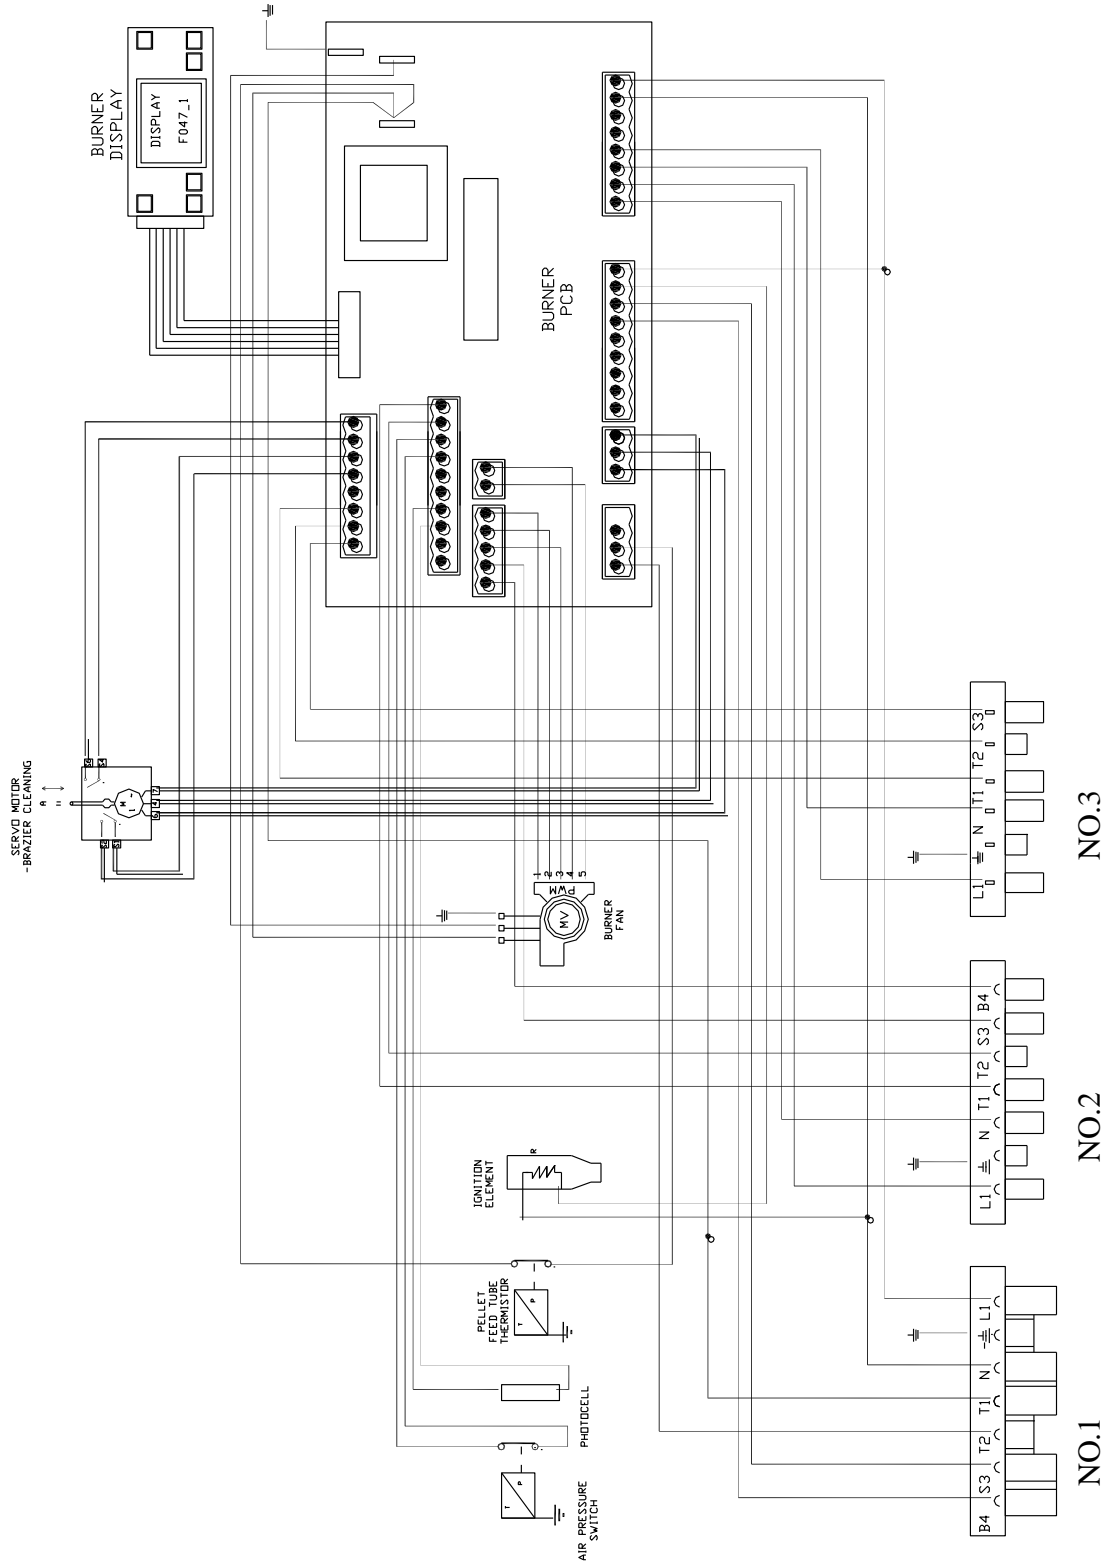

FIGURE 7.4
If fitting a bulk hopper then the Grant hopper can control the feed auger from the bulk hopper to the Grant hopper. When using a bulk hopper to supply the Grant hopper then a low pellet indicator lamp can not be fitted to the Grant hopper. See figure 7.4
- Grant hopper supplied by bulk hopper system see figure 7.4.